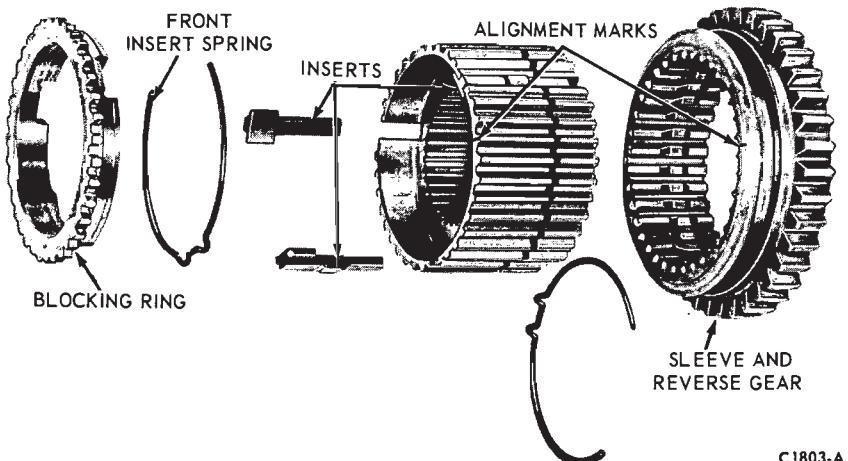

FIG. 18—First and Reverse Synchronizer Disassembled
2. Separate the inserts and insert springs from the hubs. Do not mix the parts from the second and third-speed synchronizer with the first and reverse synchronizer (Figs. 18 and 19).